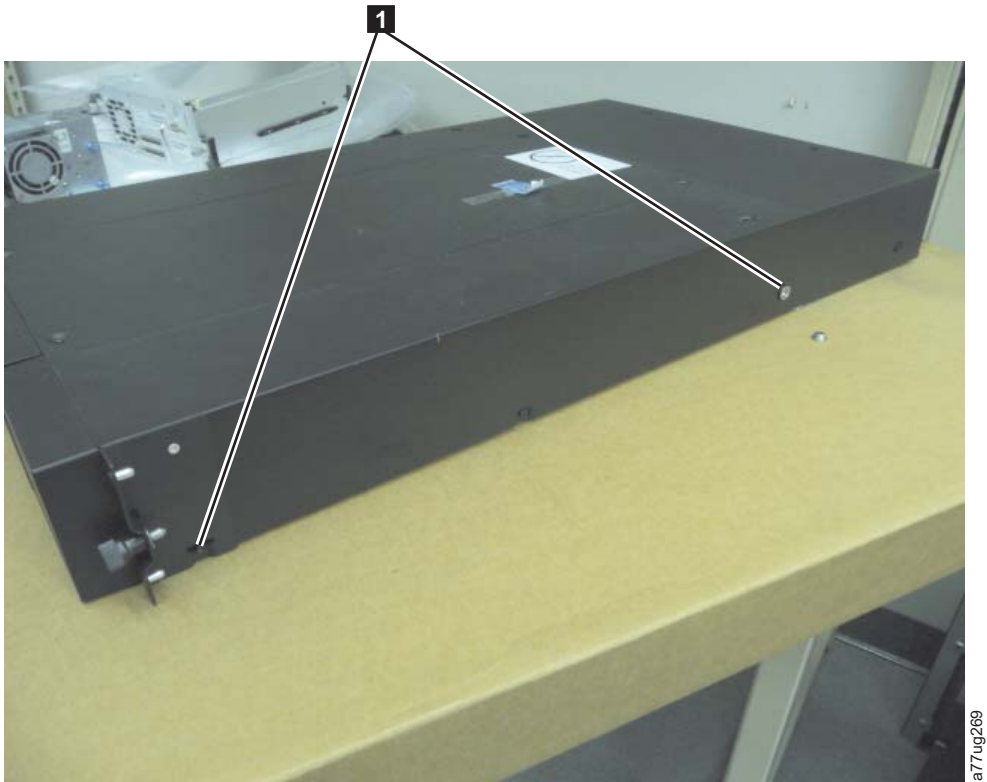

Figure 4-11. 2U library rack anchors and mounting brackets
5. Install the library rack anchors (**2**) as shown in Figure 4-11 on page 4-12 on each side of your library using the longest counter-sunk screws included in the